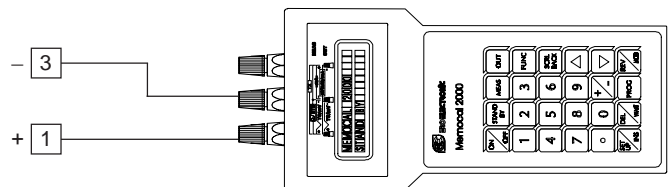

Fig.2
- 2) Connect the instrument under test to the calibrator as shown in Fig. 2.
- 1) Set the calibrator to 60.000 mV (see Fig. 2).